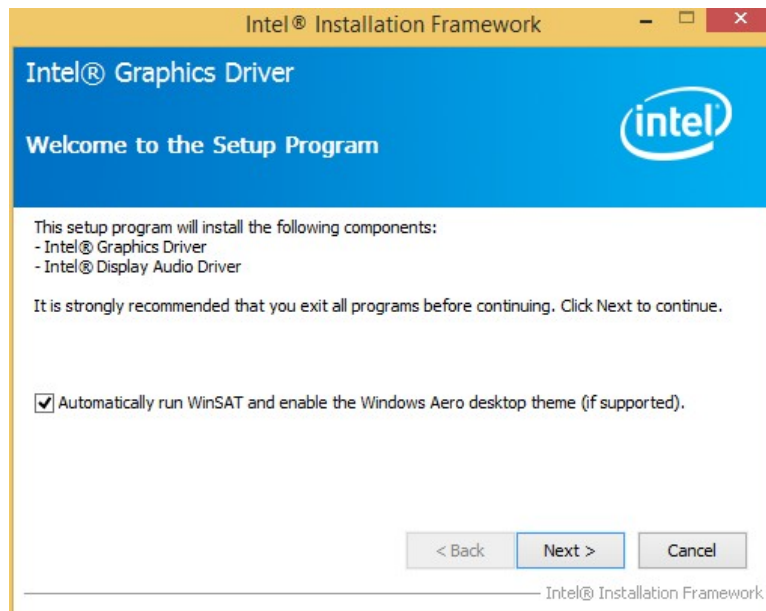

Figure 6-8: Graphics Driver Welcome Screen
Step 4: The **Welcome Screen** in **Figure 6-8** appears.